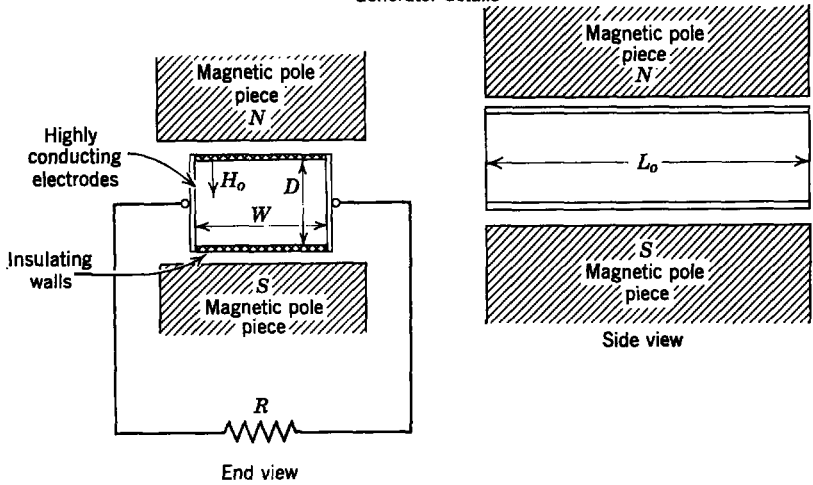

Fig. 12P.24
12.24. The system shown in Fig. 12P.24 consists of a storage tank of horizontal cross-sectional area A , open to the atmosphere at the top, and an MHD generator through which fluid stored in the tank can flow to atmospheric pressure. The generator is loaded by resistance R as shown. The tank is initially filled to a height h_0 with mercury. At $t = 0$ the valve is opened to allow mercury to discharge through the generator. When the height has decreased to $h_0/2$ the valve is closed again. Do the following calculations, using the numerical data given below. Make any approximations that are justified by the numerical data. Assume all flow to be incompressible ($\nabla \cdot \mathbf{v} = 0$) and irrotational ($\nabla \times \mathbf{v} = 0$).